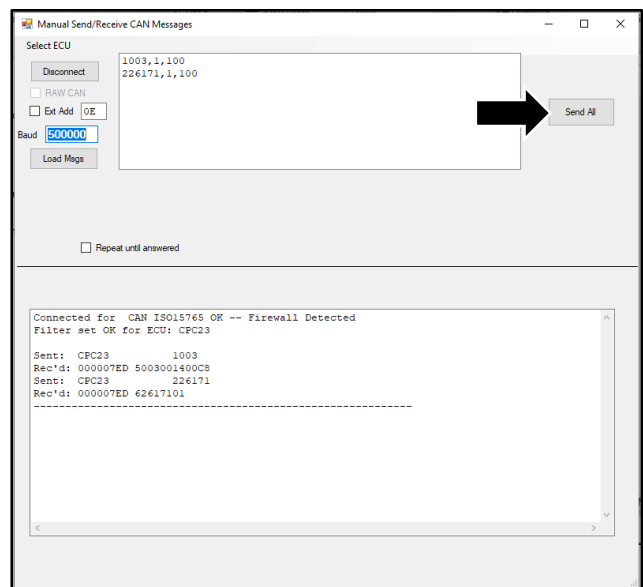

Figure 6
9. Click the "Send All" button (refer to Figure 6).